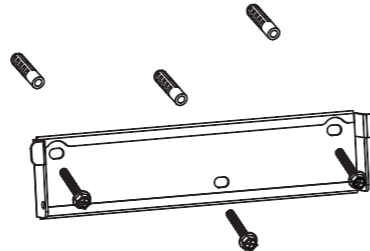

Fig. 2.2 Wall mounted inverter
- Select the mounting height of the support and mark the mounting holes according to Figure 2.2. For brick walls, the holes must be drilled for expansion bolts.